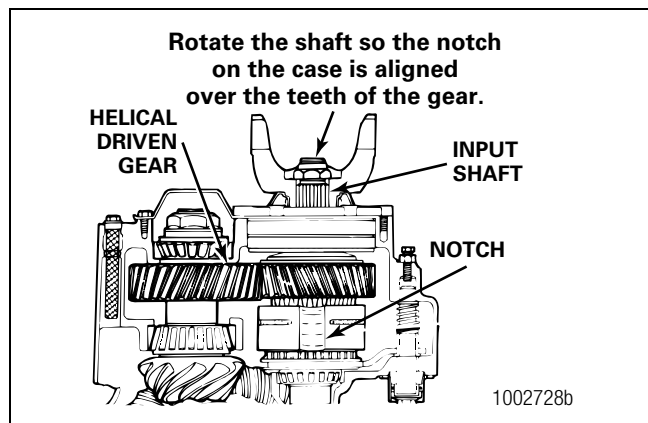
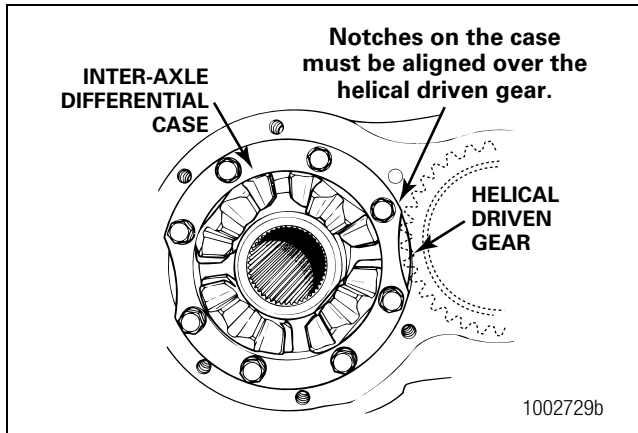

Figure 3.23
Figure 3.24
- **If the input shaft assembly cannot be removed easily:** The inter-axle differential case must be rotated. Rotate the input shaft until one of the notches on the case is aligned over the helical driven gear. Remove the input shaft assembly from the carrier. Figure 3.23 and Figure 3.24.